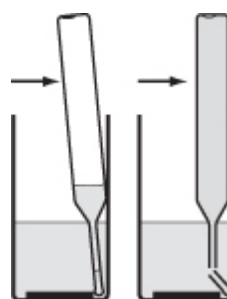

Figure 4:
5. Place the Auto-Test ampoule in the sample cup. Snap the tip by pressing the ampoule against the side of the cup. The ampoule will fill leaving a small bubble to facilitate mixing. *See Figure 4.*